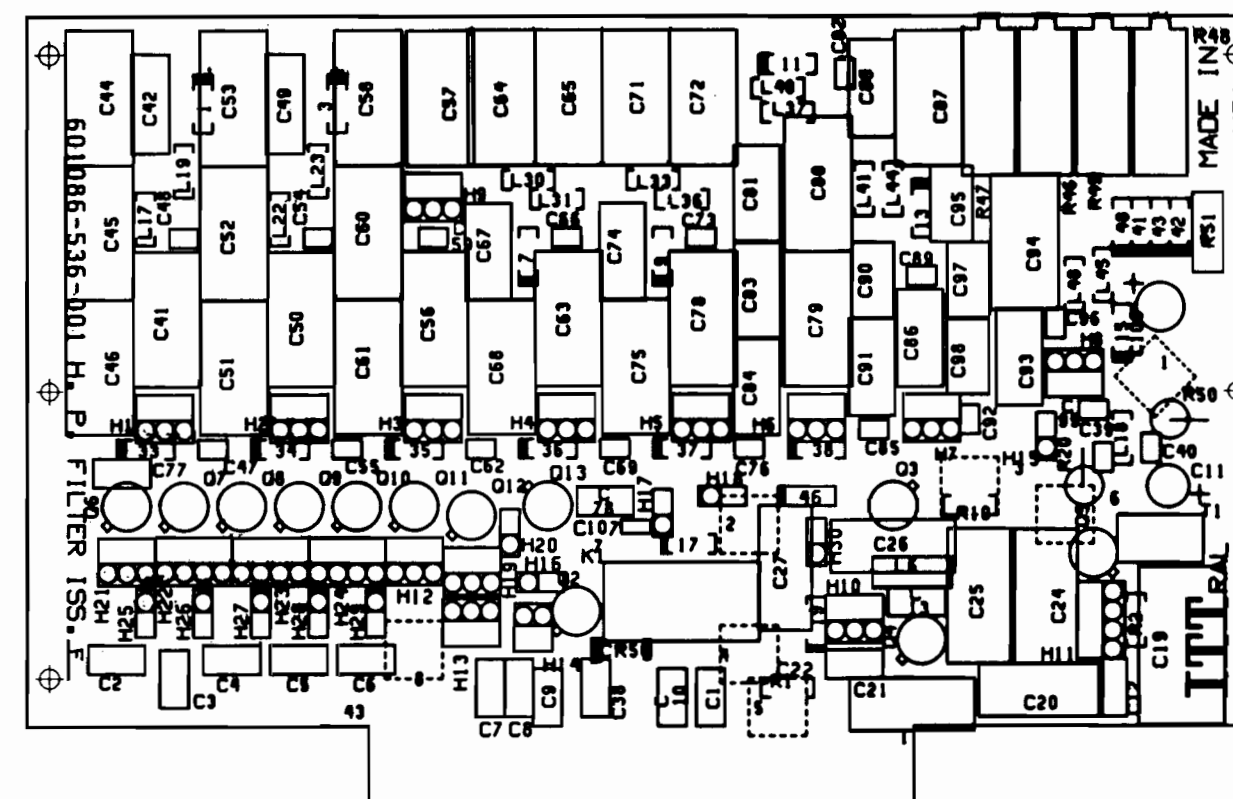

Figure 5.19 High Pass Filter Assembly
This board, Figures 5.19/20, performs part of the receive mode preselection and receive RF amplification. In the transmit mode, the output of the mixer board, 1A1A5, is filtered by this board. Contained on this assembly are eight (8) elliptical high pass filters with cut off frequencies of 1.6, 2, 3, 4, 6, 9, 13 and 20 MHz. The desired filter is selected automatically by ground signals from the logic board, 1A1A9. This board also contains a broadcast filter which provides attenuation of greater than 70 dB to broadcast signals (signals below 1.6 MHz), and a very low noise receive RF amplifier. A transmit/receive relay is used to bypass the broadcast filter and RF amplifier in the transmit mode. Additional circuitry located on this board provides analog voltages which are supplied to the transmit modulator board, 1A1A3, to more accurately establish the A3A carrier level on transmit.